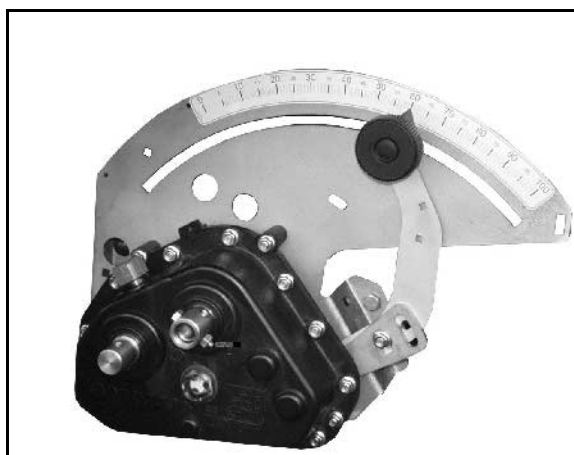

Fig. 86
3. Slacken but do not unscrew the two winged nuts (Fig. 86/1).